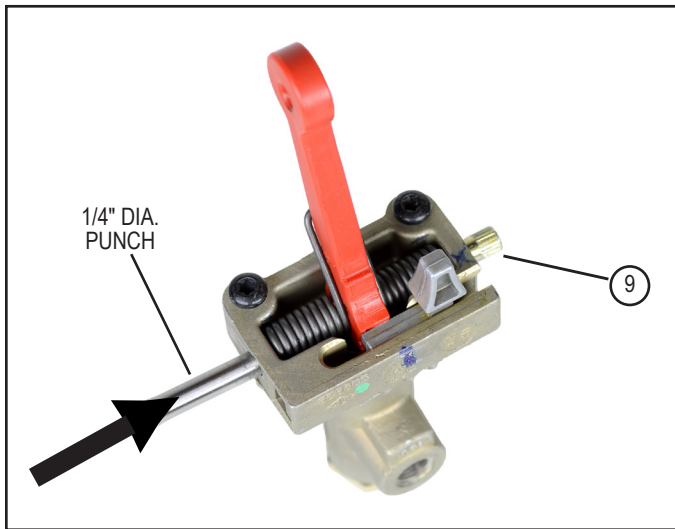

Figure 2 – Bendix® TC-4™ Valve Pin Removal
5. On the side of the valve—opposite the locking button—use a small drift (1/4" diameter) punch and a dead blow hammer to carefully remove the pin (9) from the valve body. Remove the lever and torsion spring. See Figure 2.
6. Remove the plunger, shims (if present) the graduating spring (8), the piston and piston return spring (2). Small needle-nose pliers may be necessary to remove some of the smaller items.
8. Discard all of the removed items (1-10) that are replaced by the kit contents.